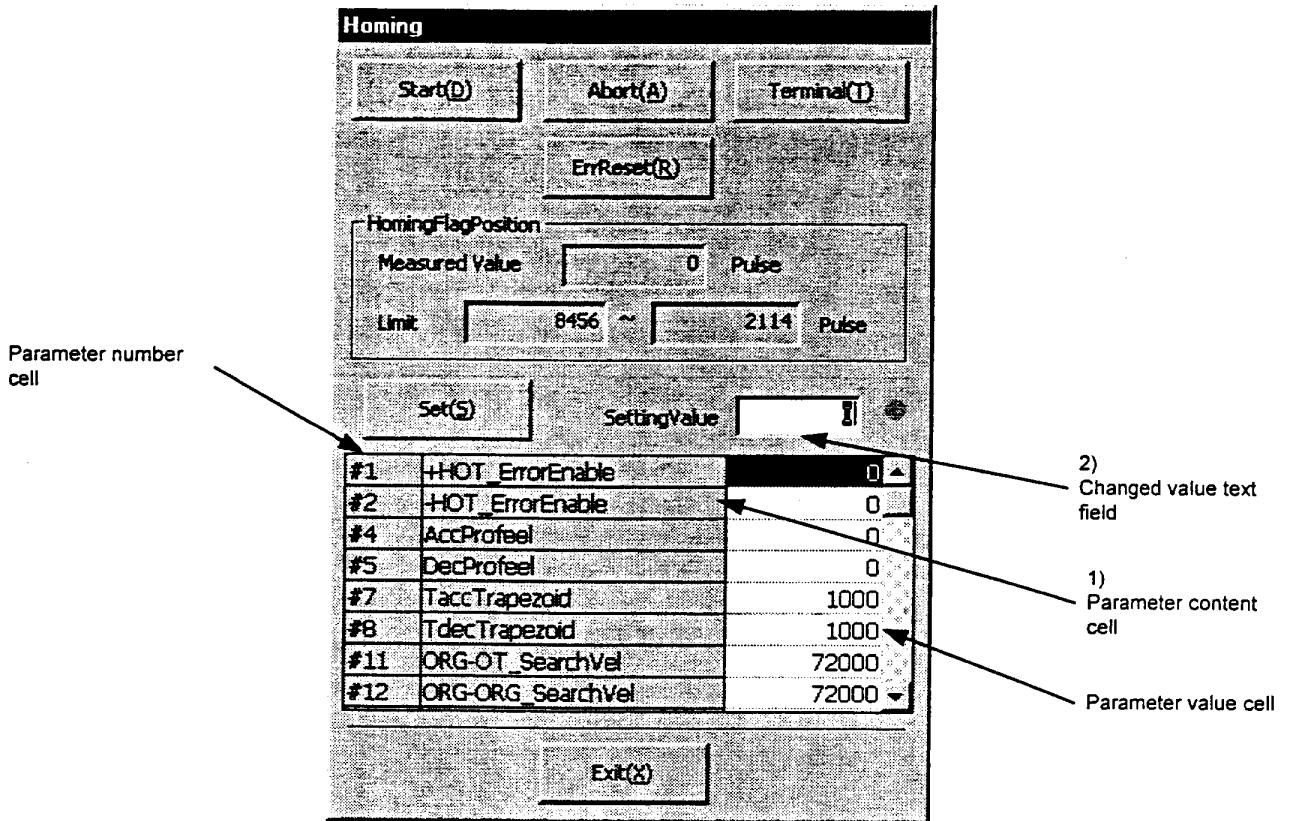

Figure 7.21 "Homing" dialog box
Click "Homing (O)" in the "DriveMenu" dialog box to display the "Homing" dialog box (see Figure 7.21). If the connection with the driver is established, the current values of the related parameters are read and can be edited.